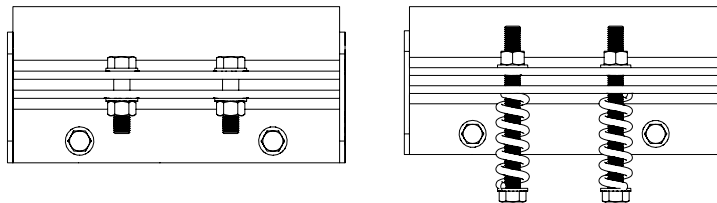

Fig. 2. Tank Mounts (WT4000/4500 mounts shown)
2. Inspect the tank mounts (Fig. 2) weekly to make sure they have not come loose.